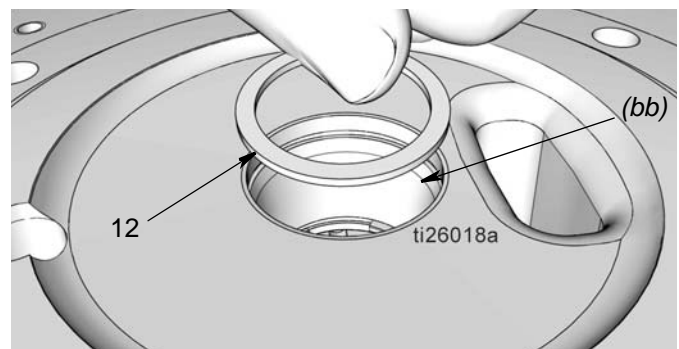

FIG. 32
- b. Verify retaining ring (51) is in place inside the pump base (1).
- c. Install spacer (12) shown in FIG. 32.